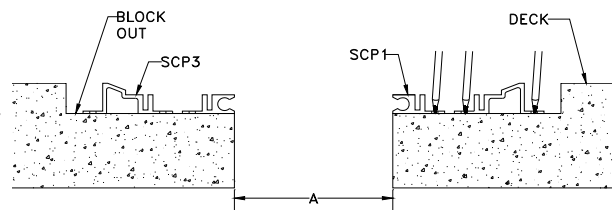

Figure 5
STEP 1. Select two SCP1s and two SCP3s, and place them into their installed positions in the block out. Ensure that they are plumb, level, the proper dimension from one another and properly aligned. Using the SCP1s and SCP3s as templates, mark the locations for the anchors on the concrete (Figure 5). Remove the SCP1s and SCP3s from their installed positions and drill the anchor holes at the marked locations. Remove all dirt and debris from the blockouts.